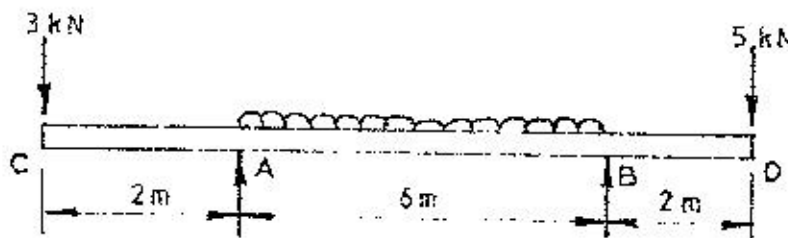

Fig. 1
- (c) Figure 1 shows a simply supported beam.